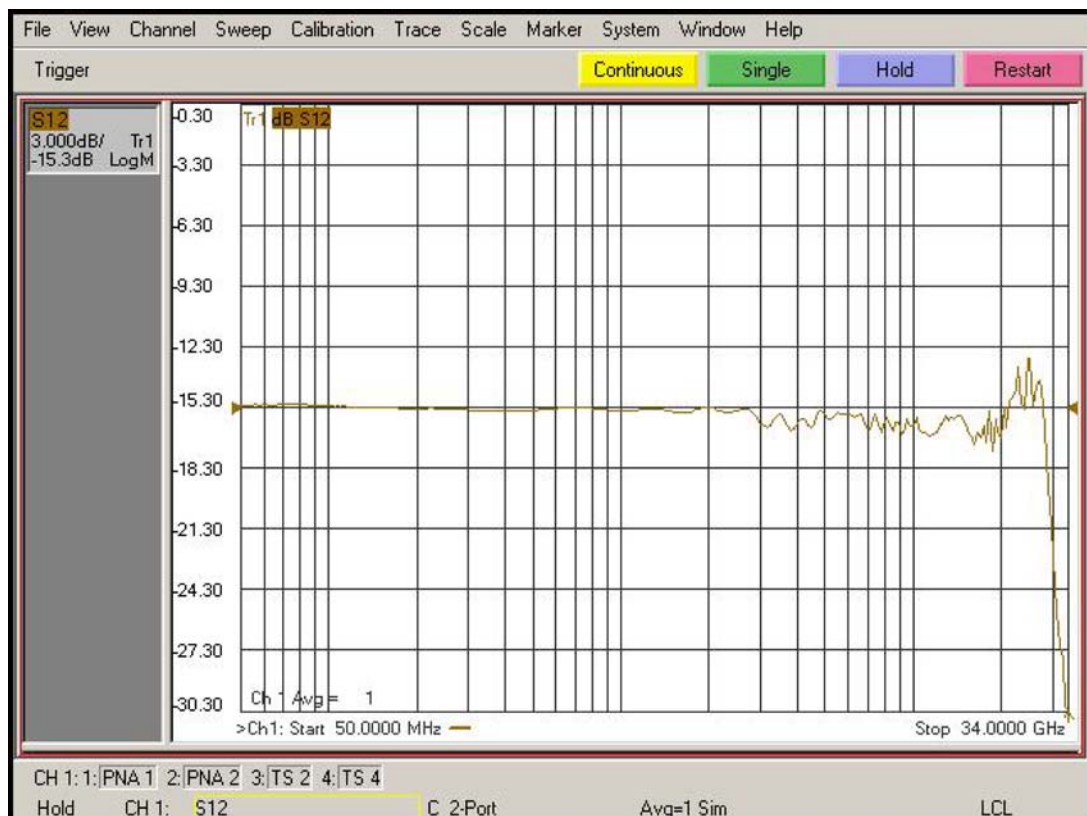

Figure 59 De-embedded “Vout” trace
- c Display should look like Figure 59. If it looks noticeably different, the probe tip wires may not be making contact under the pinchers.